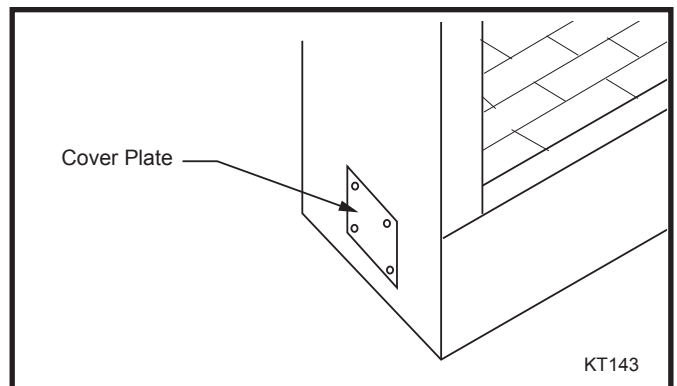

Fig. 13 Remove outside air cover plate and discard, retain screws.
1. Remove the screws retaining the outside air cover plate, if provided. (Located on the left side of front open units, on backside of multisided units.) Discard cover plate. (Fig. 13)